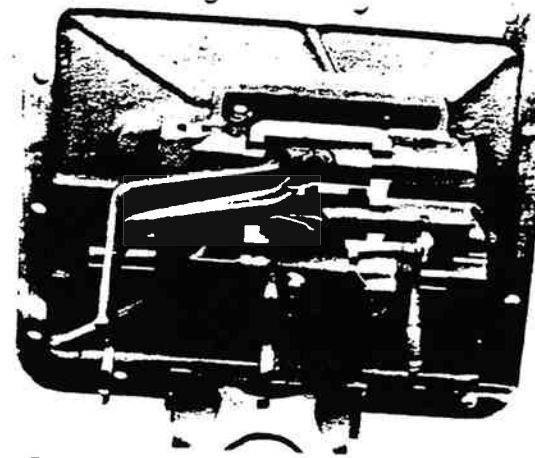

Figure 13-11. Positioning Housing In Vise.
5. Place the housing in a vise with the left side up; the long bar will be at the bottom (figure 13-11).